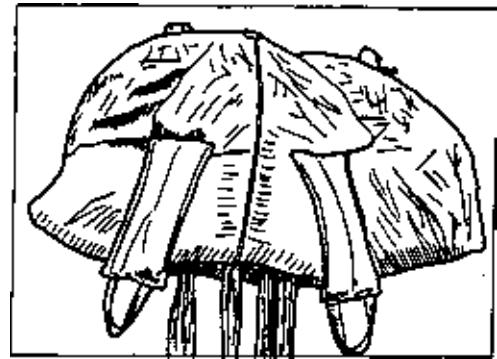

Figure 4
Step 11 "S" fold the canopy into a stack on itself to the length approximately the distance from the mouth of the bag to the grommets in the center of the bag. *Figure 4*